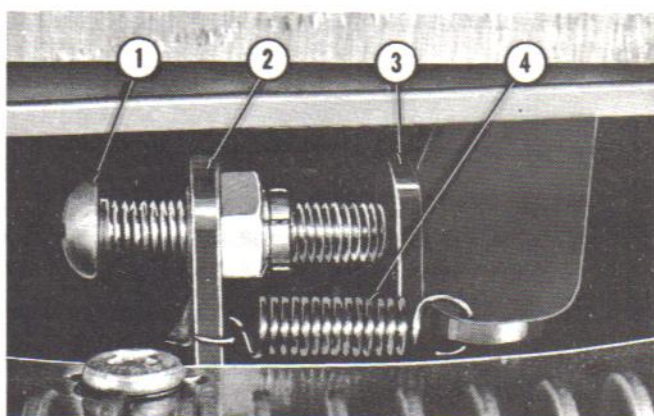
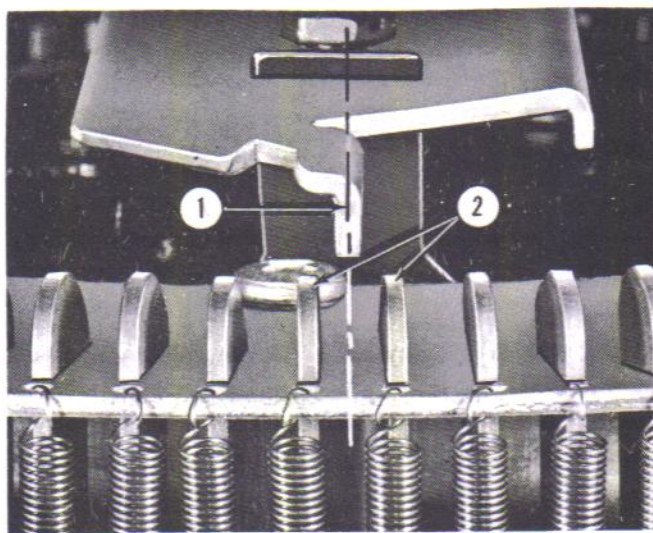

Fig. 50. KICKOFF SCREW ADJUSTMENT, 2504
Fig. 53. SELECTOR CRANK ARM CENTERING, 2504
The adjusting screw (Fig. 50, Item 1) for centering of the selector crank arm is mounted on the end of the "adjusting bracket and stop nut assembly" opposite the plunger latch stop screw and actuating screw. This screw provides adjustment of the selector crank "at rest position," to avoid interference with the release of adjacent selector pins (Fig. 53, Item 1).
(5) Adjust the kickoff screw (Fig. 50, Item 1) so that the tip of the crank rests midway between selector pins as shown in Figure 53.